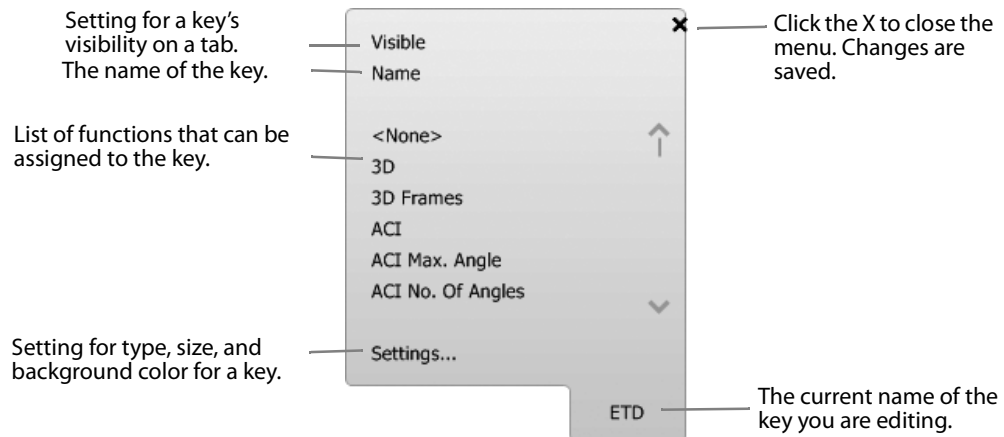

Figure E-2. Sample menu for redefining an existing key.
- 2 A menu appears for editing the key (as shown with the ETD key sample in Fig E-2.)